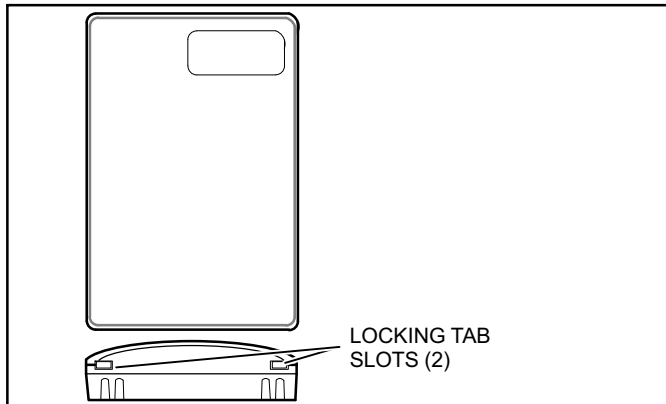

Figure 1. Cover disassembly
1. Insert a thin, flat blade screwdriver into each of the two slots at the bottom of the module to release the two locking tabs (see figure 1).